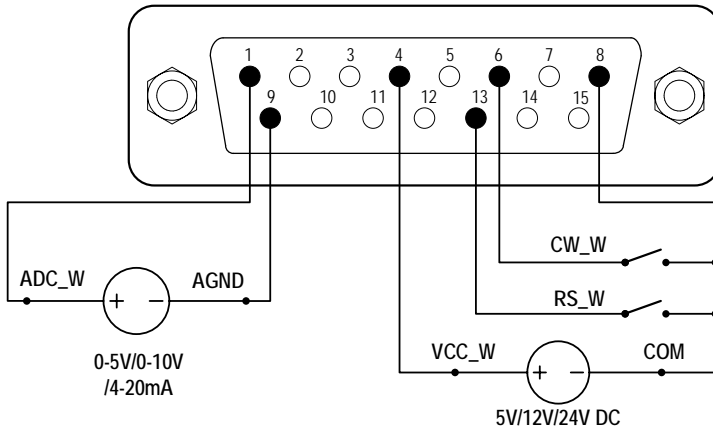

Figure 9. DB15 Wiring with an External Power Source
- 1) Turn off the power. Wire the DB15 connector as shown in Figure 9 or Figure 10. Connect it to the DB15 port on the rear of the pump.